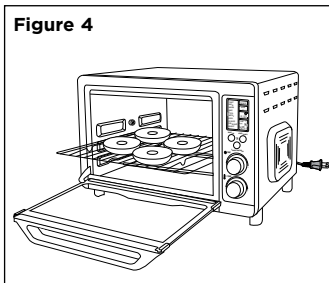

Figure 4
2. Open the glass door. Slide the wire rack into the center shelf position and arrange bagels, English muffins or toaster food cut-side-up on the wire rack. (See Figure 4.) Close the glass door.